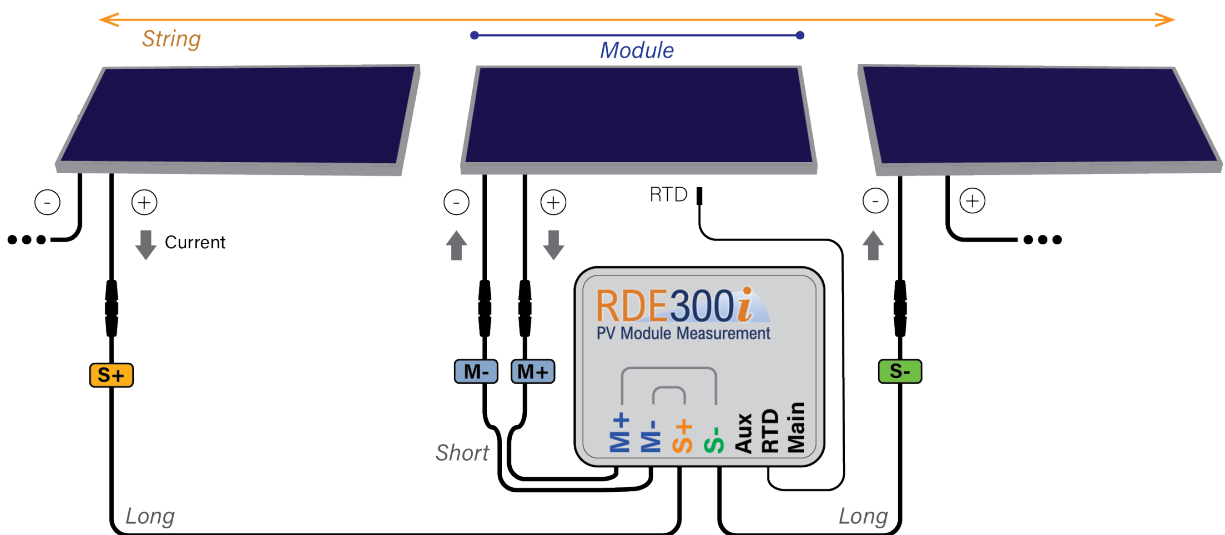
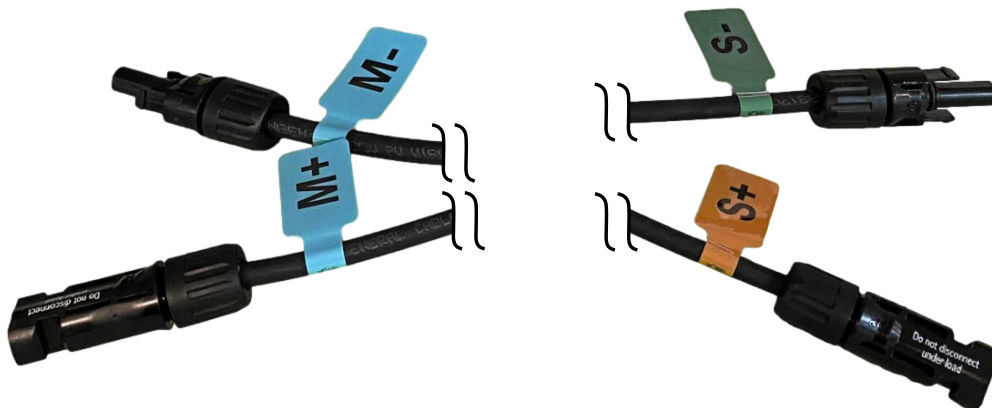

Figure 7-4: Wiring diagram for PV Module and String cables
Figure 7-5: Module and String cable labels
- Connect the RDE300i **S-/S+** cables to complete the string circuit, per Section 7.2 of the User Guide and per the wiring diagram in **Figure 7-4**
The PV Module and optional String cables must be connected per the wiring diagram in **Figure 7-4**. Note that the Module and String cables are labelled as shown in **Figure 7-5**. The cables are terminated with MC4 connectors (Multi-Contact part numbers 32.0017P0001-UR and 32.0016P0001-UR). Adapters may be required for your PV modules.